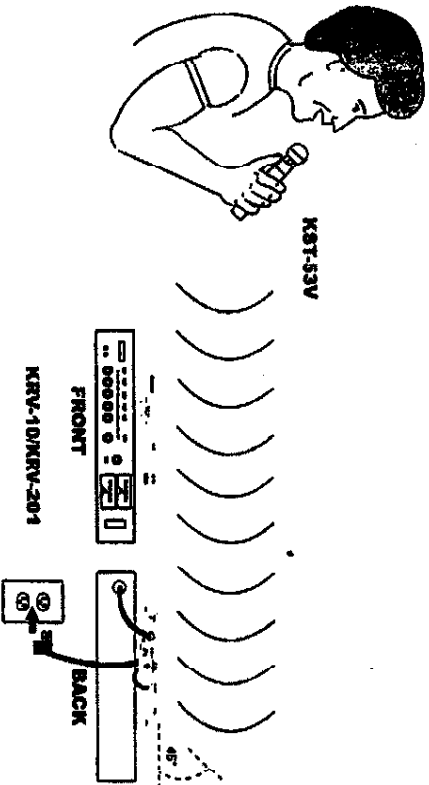

FIGURE 7
1. Refer to Figure 7. Connect the supplied ac power adapter into the DC INPUT connector in back of the receiver. Insert the adapter's cable into the power cable retainer. ("suit of KR.V-10") Plug the adapter into a wall socket or other ac power source (use HD41N110 for 220VAC, 50Hz power, use HD41N10E for 120VAC, 60Hz power). Push the power switch on the face of the receiver, the red POWER light on the receiver will glow.